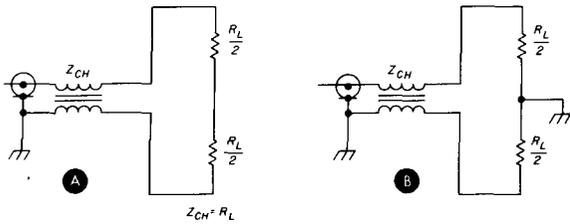

fig. 4. Test circuit for a 1:1 balun *without* a tertiary winding, with and without the load impedance centertap grounded.  $Z_{ch} = R_L$  in both cases.
Perhaps one of the most interesting experimental results of the NBS work is the strange "oscillating" gain characteristic shown in Viezbicke's Figs. 4, 5, and 6, reproduced here for convenience in figs. 13, 14, and 15. I have attempted to calculate a number of these cases and although the oscillating gain phenomenon does show up, the detailed agreement between experiment and theory is not impressive. However, I have found that the exact behavior of these long and heavily (director) loaded arrays is critically dependent on frequency and/or exact director lengths. Accordingly, I have run calculations for several frequencies around the central frequency (normalized to unity). The results are shown in fig. 16, where the theoretical calculated points for each frequency are connected by line segments for clarity.
**fig. 13.** Yagi gain as a function of length (number of directors) for different constant spacings between directors of length equal to  $0.382\lambda$  (Fig. 4, *NBS Report 688*).
To show the practical need for tertiary winding, I'll discuss the effects that the lack of a tertiary winding will have on balun performance. Consider the 1:1 balun with no tertiary winding, as shown in **fig. 4**. Because of the instrumentation considerations, it's easier to use a balanced load, consisting of two equal-value resistors, each of value  $\frac{R_L}{2}$ , and to make measurements at the unbalanced side rather than vice versa, which would require a balanced impedance bridge. The center of these two resistors may be grounded, as in **fig. 4 (B)**, or ungrounded, as in **fig. 4 (A)**. If the balun is working properly, there will be no difference whether the resistors' center is grounded or not. Any differences can give an important clue as to the type of problem being encountered. In all cases, I'll assume the total load impedance,  $R_L$ , is equal to the characteristic impedance,  $Z_{ch}$ , of the transmission line.
First, let's assume the center tap of the load is not grounded, as in **fig. 4 (A)**. The resistive component